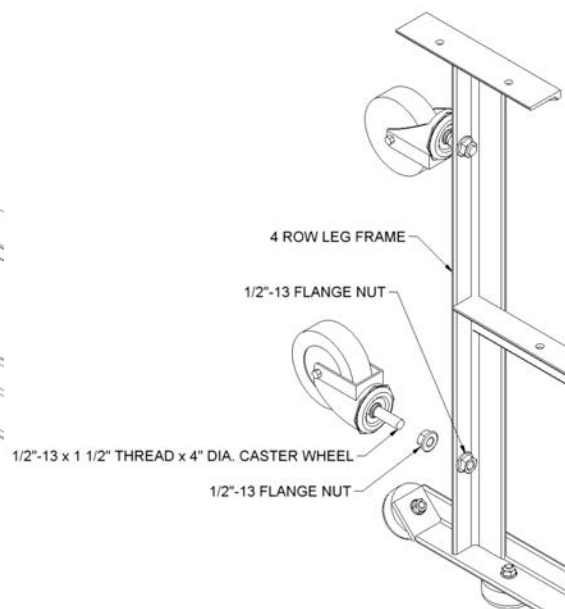

FIGURE: 2
2. Install two (2) wheel casters on the backside of each frame as shown in figure 2 - fully thread caster stem on, but tighten only finger tight.